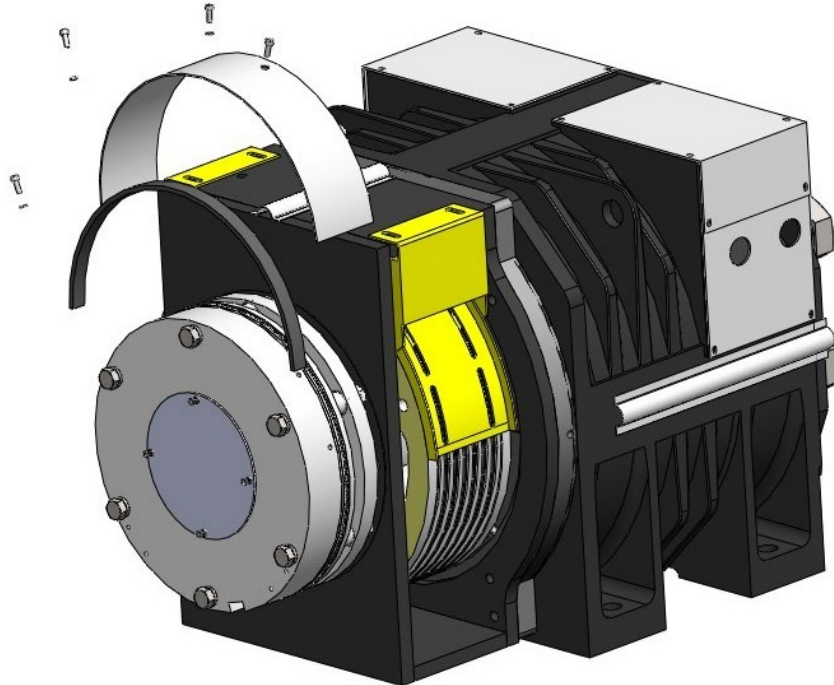

Figure 96 Remove dustproof ring and nylon seal
1. Loosen the screw M6x16 and lock washer 6 (4 pieces) by hex wrench (5mm), then remove the dustproof ring and nylon seal. See Figure 96.